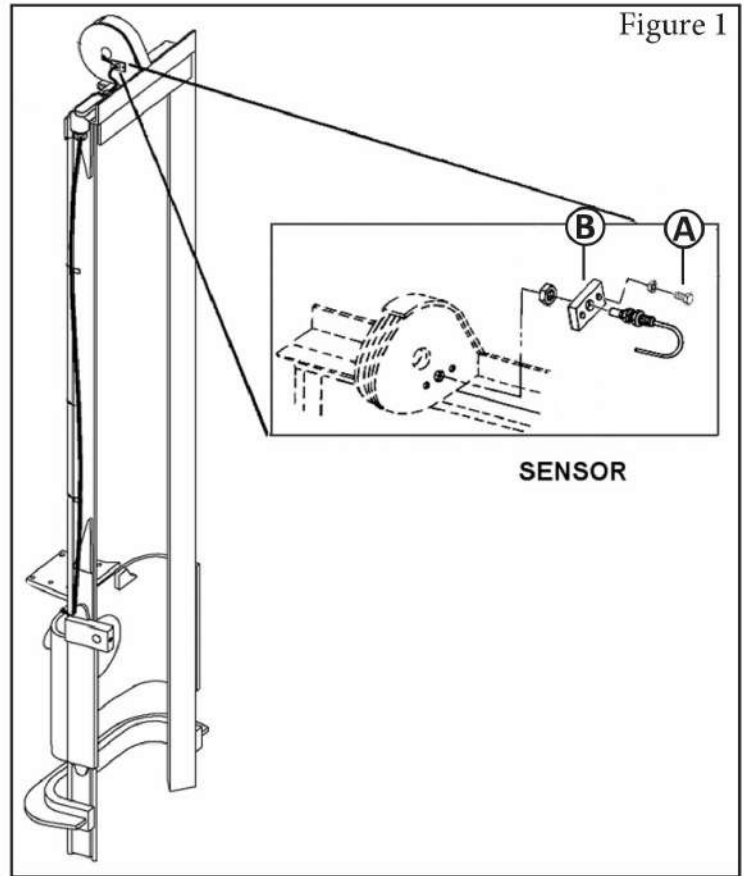

Figure 1
2. Remove the two bolts (A) and lockwashers securing the sensor to the sheave housing (Fig. 1).
3. Remove the sensor bracket (B) (Fig. 1).